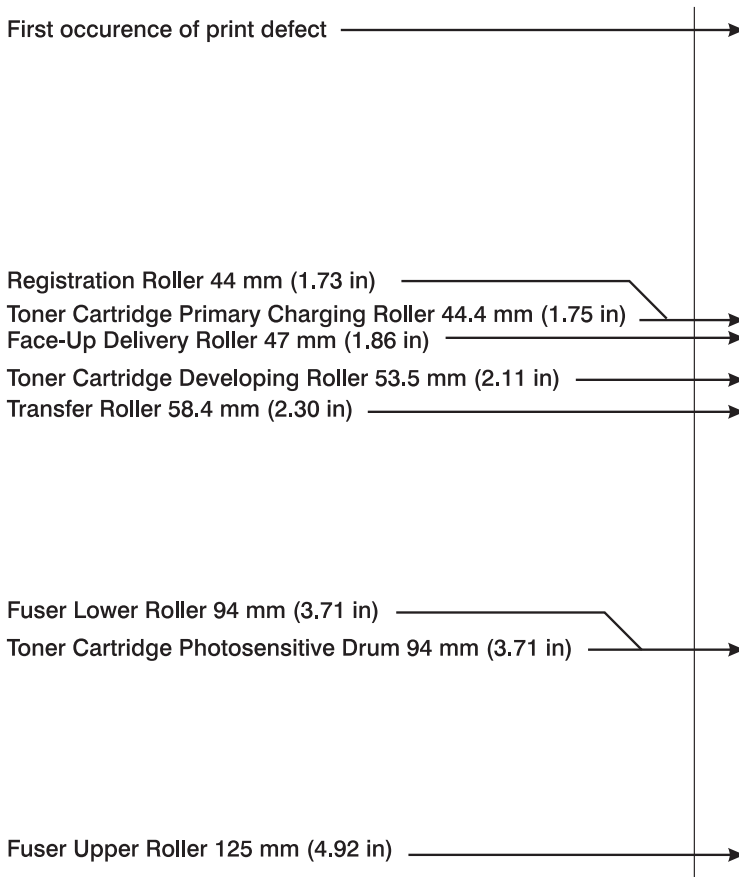

Figure 7-10 Repetitive Defect Ruler
1. Toner cartridge is damaged. If the defect repeats at any of the following intervals and in the direction of paper movement, it is associated with a component inside the toner cartridge. See figure 7-10 on page 408.	Inspect the drum for scratches or damage. Replace the toner cartridge. Use the Repetitive Defect Ruler, figure 7-10 on page 408.
Repetitive print defects are usually associated with a specific roller within the printer or the toner cartridge. Use figure 7-10 to isolate the cause of repetitive print defects. Align the first occurrence of the defect with the top of the “ruler” and measure to the next occurrence of the defect to determine the roller in question. When you are certain that your defect pattern matches the pattern of the ruler, replace the indicated roller.